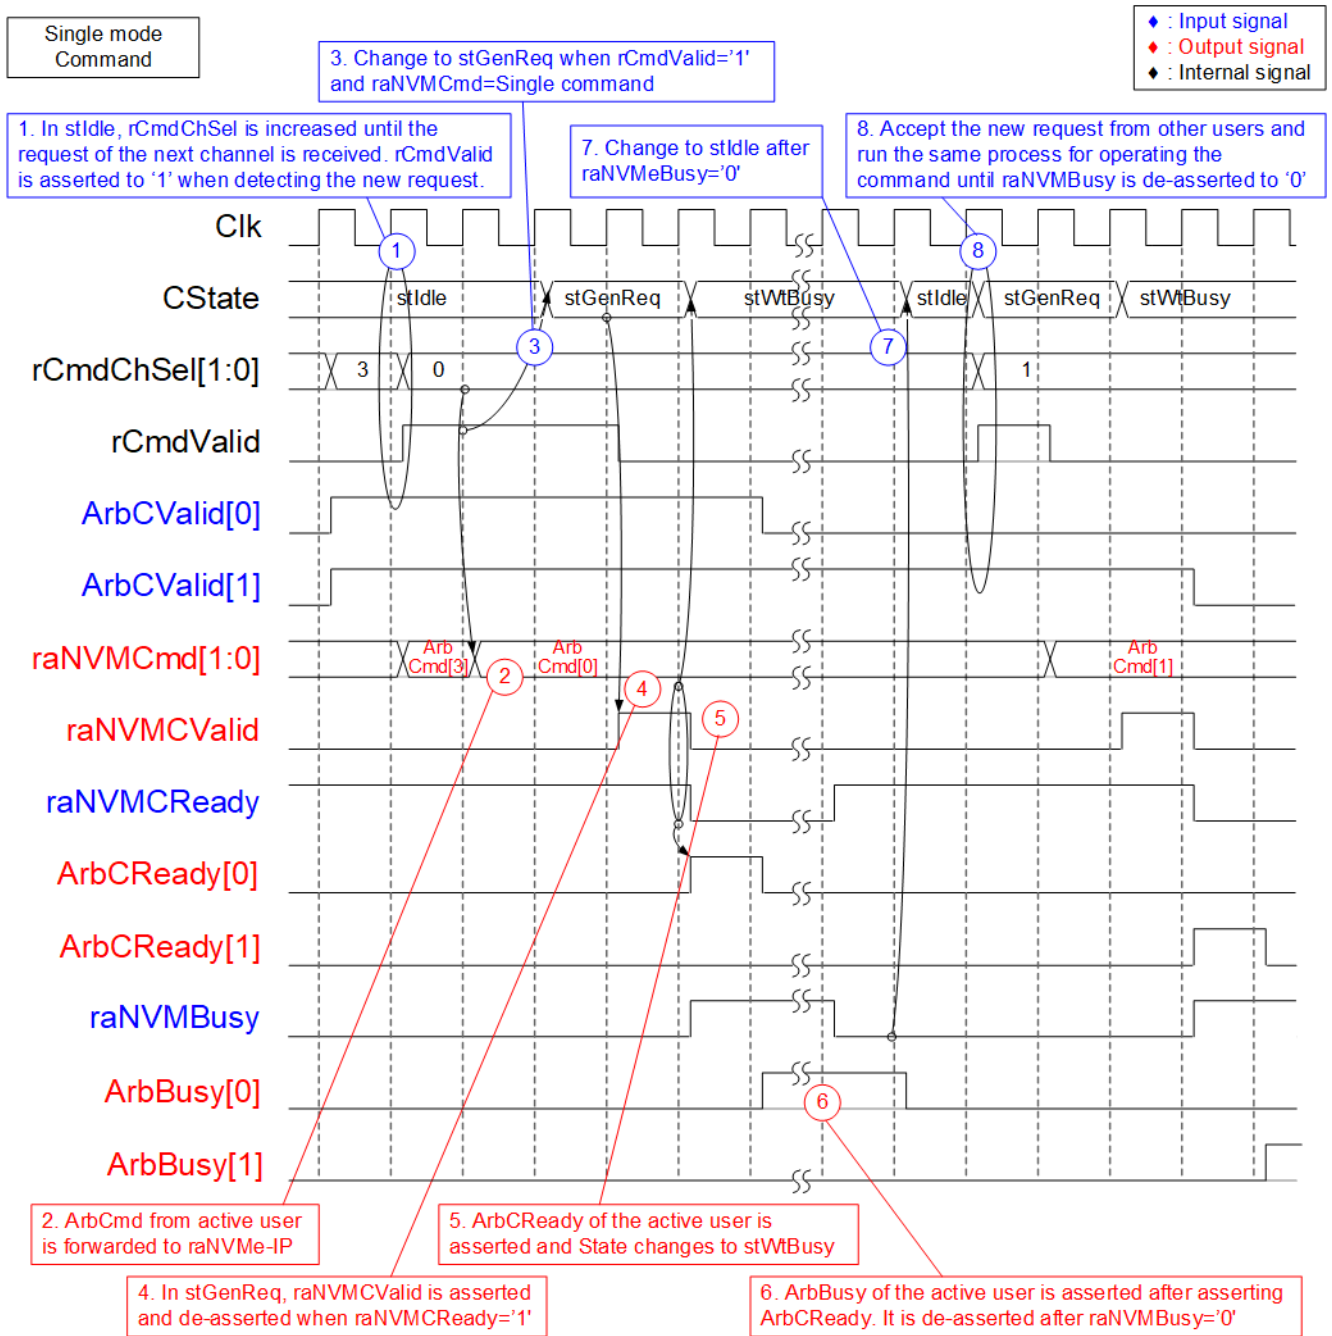
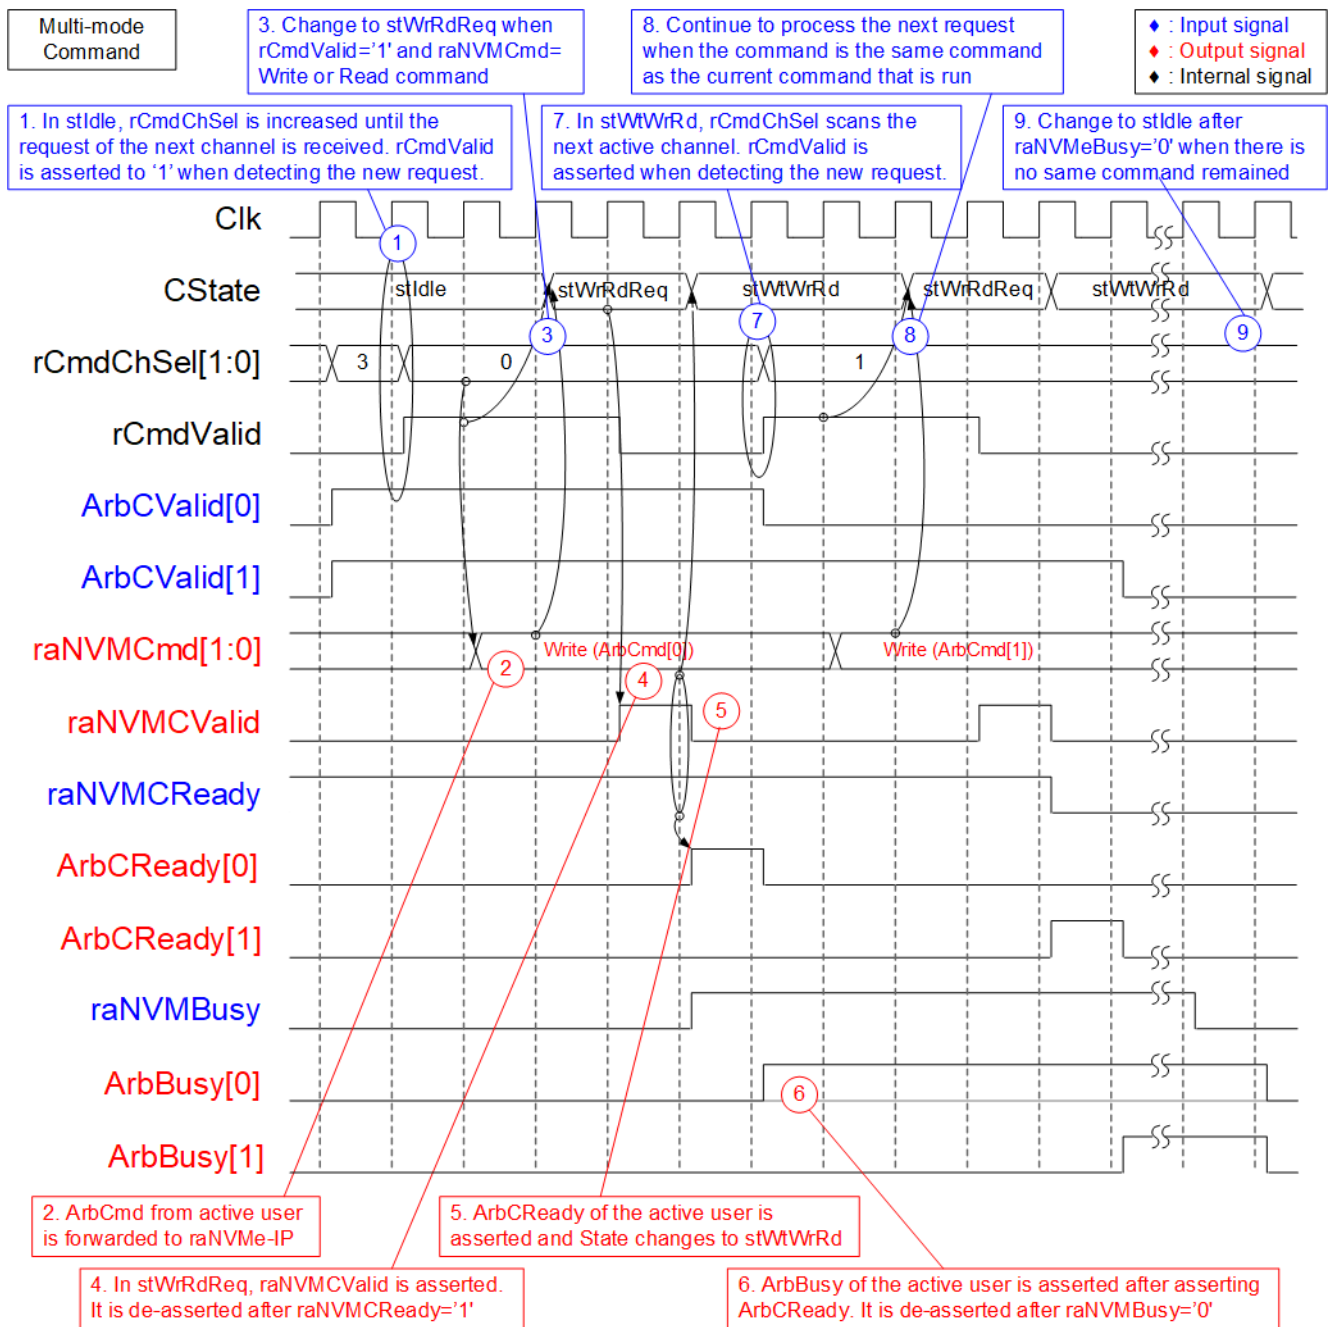

Figure 2-10 Timing diagram of raArbiter's Command I/F when running single mode command
Figure 2-11 Timing diagram of raArbiter's Command I/F when running multi-mode command
Timing diagram of Command interface when running single mode command and multi-mode command are shown in Figure 2-10 and Figure 2-11, respectively.
- 1) In stIdle, rCmdChSel is increased to scan ArbCValid of each channel until detecting some bits are asserted. In Figure 2-10, when ArbCValid[0]='1' and rCmdChSel=3 (changes to 0 in the next cycle), it will accept the request of channel#0 and start the operation. After that, rCmdChSel changes to 0 and holds the value until the command is completely processed. At the same time, rCmdValid is asserted to '1' when the request of some channels is accepted.
- 8) Repeat step 1) for scanning the next channel. In Figure 2-10, user#1 sends the request when rCmdChSel=0. Consequently, rCmdChSel changes to 1 and rCmdValid is asserted to '1' for starting operating command from channel#1. After that, repeat step 2) – 7) if the command of user#1 is single mode command.
- 3) Two clock cycles after rCmdValid asserted to '1', the state reads raNVMCmd to check the command type. If the command is multi-mode command, it changes to stWrRdReq. In Figure 2-11, assume that the command is Write command.
- 8) The state changes to stWrRdReq for operating the next command if the new command from the new active user is the same command as the current command. As shown in Figure 2-11, the new command from user#1 is Write command which is the same as current command from user#0. The new command is requested to raNVMe-IP by asserting raNVMCValid to '1' with forwarding the parameters from the new user.